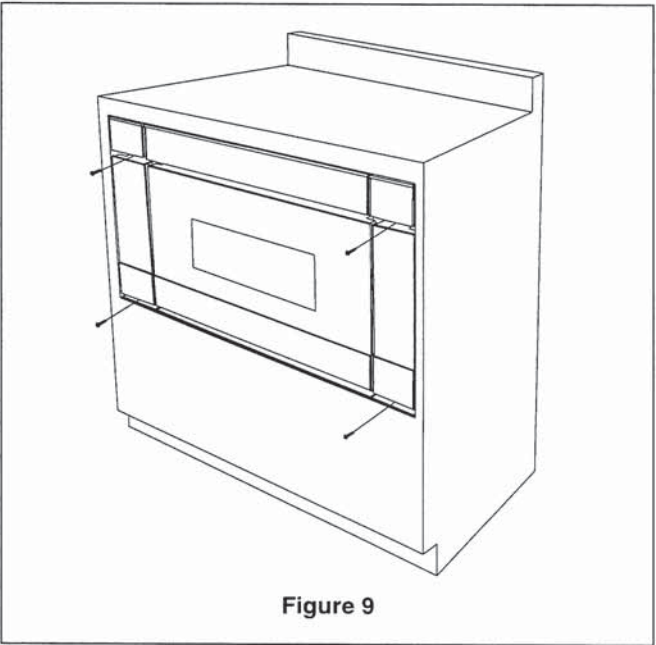

Figure 9
11. Mount the Left and Right 30" trim extensions, using the 4 trim screws provided. See Figure 9.